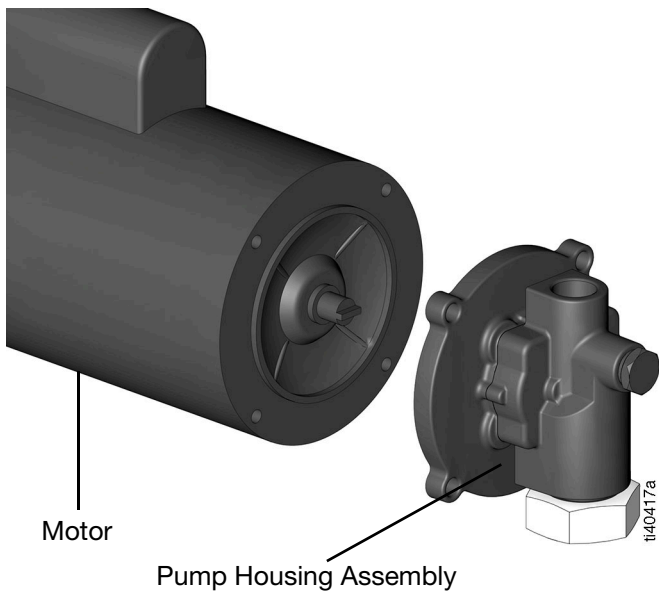

FIG. 8
- Remove the pump housing assembly from the motor (FIG. 8).